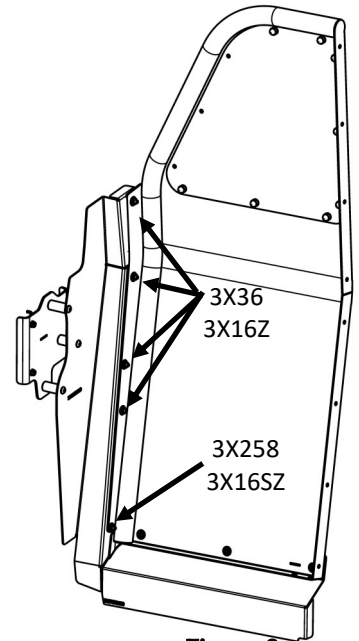

Figure 9
1. Prepare (4) 1/4"-20X5/8" carriage bolts [3X36], (1) 1/4"-20X1/2" button head screw [3X258], (4) 1/4"-20 whiz nuts [3X16Z], and (1) 1/4"-20 small whiz nut [3X16SZ] near the mounting plate.
3. Use the fasteners prepared in step 1. to loosely secure the Partition to the Mounting Plate. The button head screw and the small whiz nut go in the bottom hole. Figure 9 shows the partition installed at this stage.